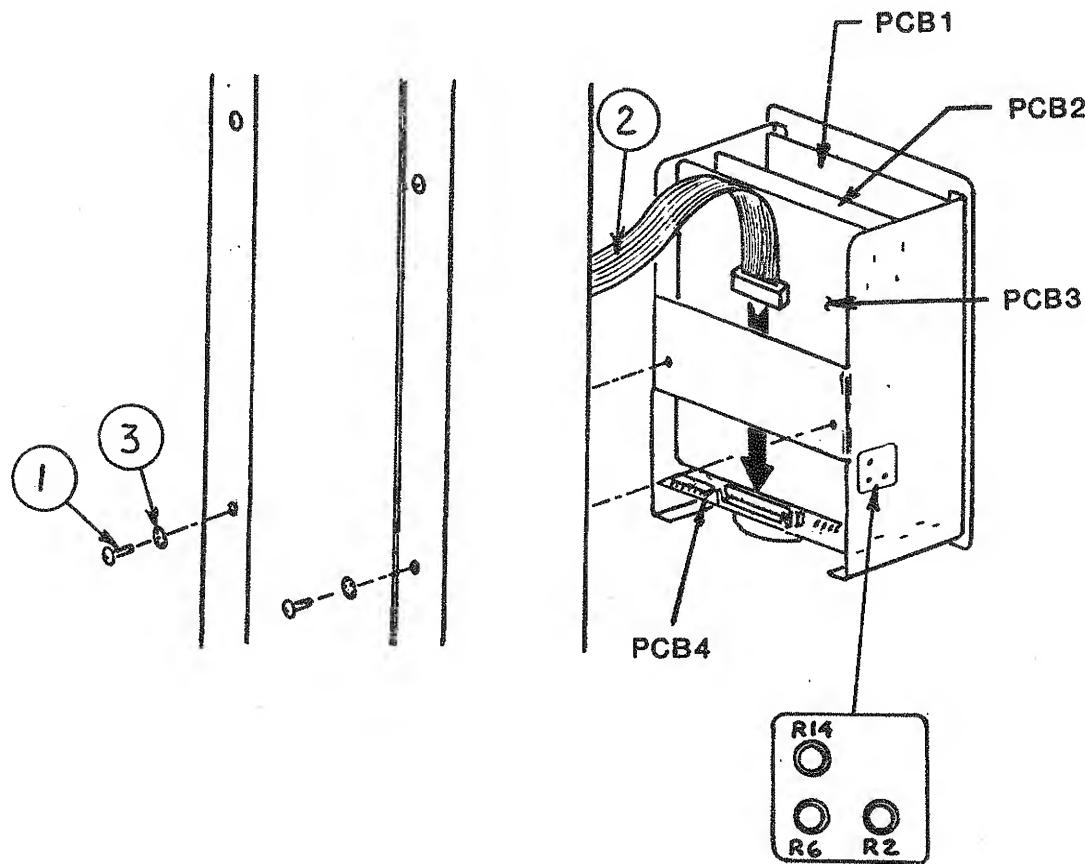

FIGURE 5.2 CONTROLLER MODULE REMOVAL AND REPLACEMENT, AND ADJUSTMENT AND CONNECTION POINTS.
1. REFER TO FIGURE 5.2 and remove the two mounting screws (1) and lockwashers (3) that secure the Controller to the Mounting Post and unmount the Controller.